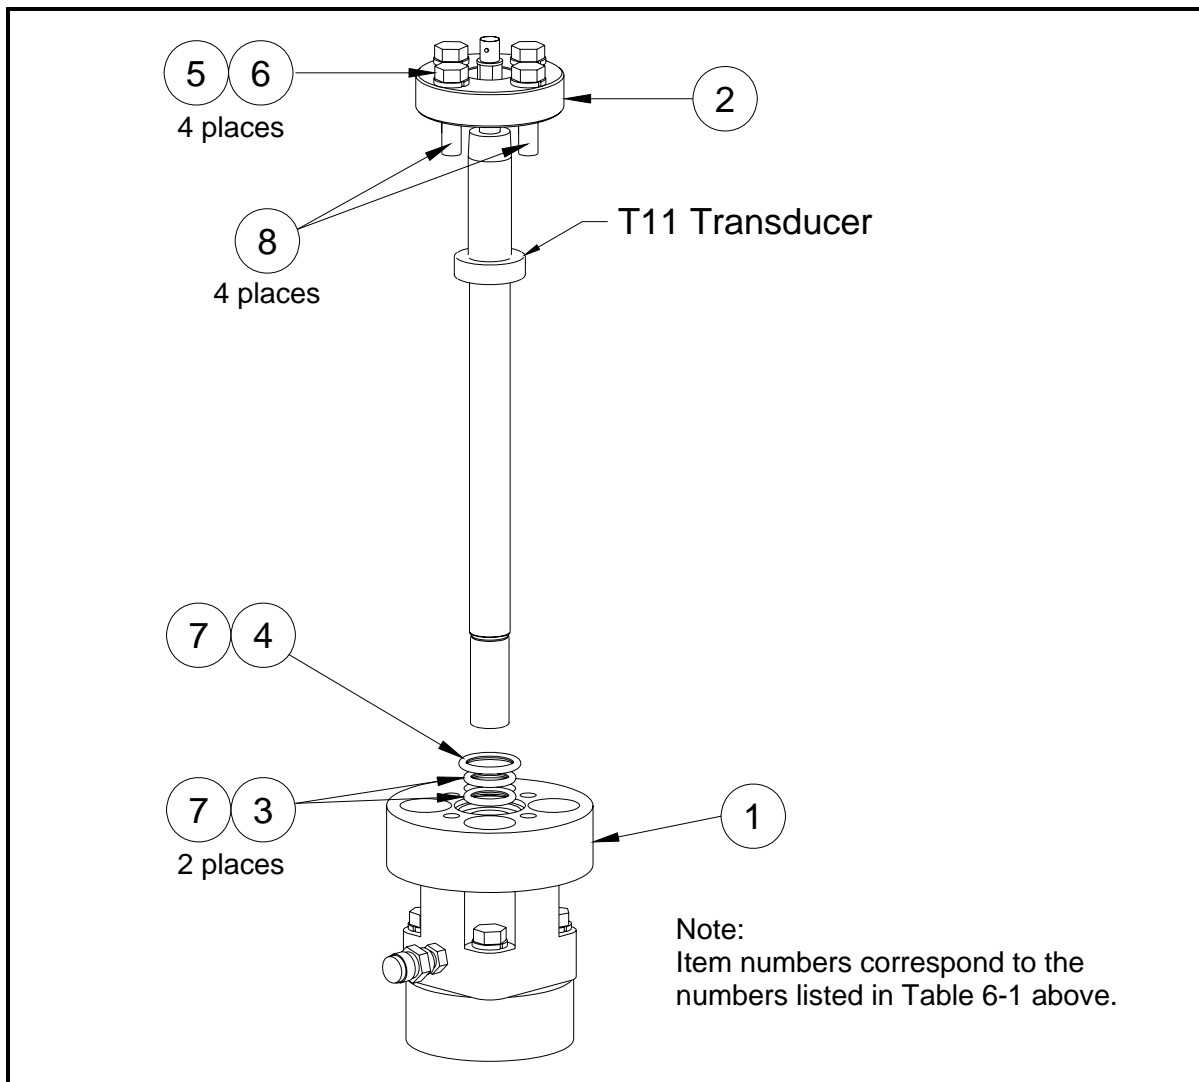

Figure 6-2: T11 Installation Components with the Pipeline Shut Down
*Component numbers correspond to item numbers in Figure 6-2.
Using the components listed in Table 6-1 and Figure 6-2 on page 6-4, proceed to install the transducers by completing the following steps: